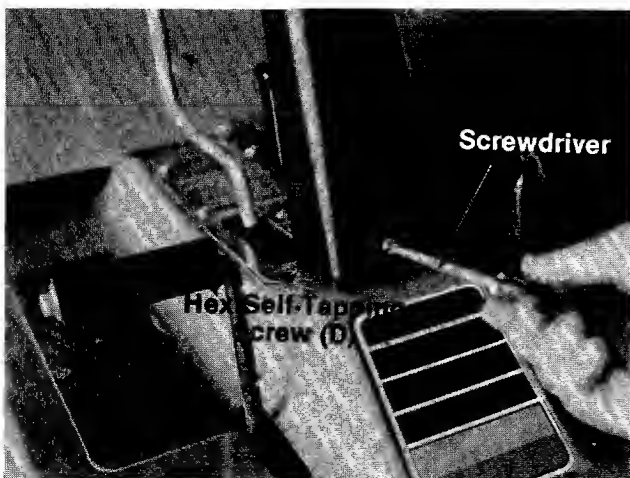

FIGURE 4.
7. Secure cover to support bracket with two self-tapping screws (D) provided. See figure 4.